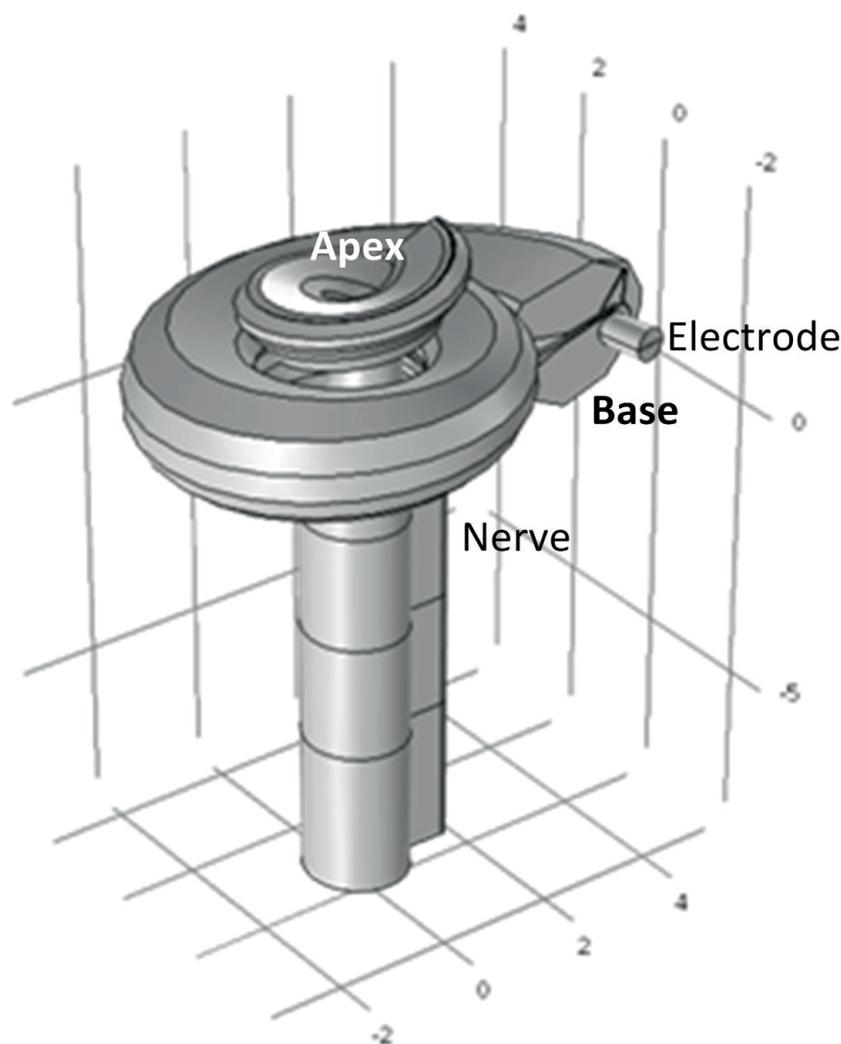

Figure 3
Figure 3 shows a 3D model of a cochlea that contains an electrode array (cylinder protruding at the base), and that was constructed using the tools developed in our research group.
**Fig. 3** **a** Kidney tubular chip. Sandwich assembly of the PDMS channel, porous membrane, and PDMS reservoir (reproduced from [74]); **b** the channel can replicate the urinary cavity and capillary lumen of the glomerulus. The porous flexible PDMS membrane can be used to functionalize the protein laminin to mimic the glomerular basement membrane. Cyclic mechanical pressure to the cell layer via vacuum stretching of the flexible PDMS film can be produced (reprinted with permission from [76] Copyright © 2018, Royal Society of Chemistry)